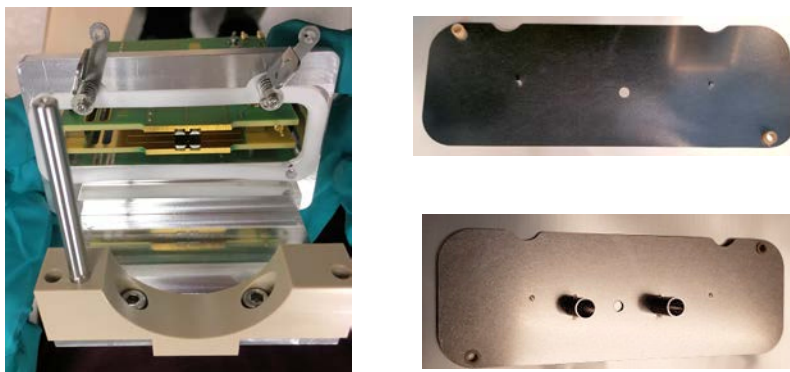

Figure 9. Bent flatpole holder and exit lens
2. Grab the exit lens and pull it away from the holder. Do not cause damage to the two metal cylinders (neutral collectors) that are attached to the other side of the lens. See Figure 9. Put the lens on a clean, lint-free surface. The white insulator rings will stay in place.